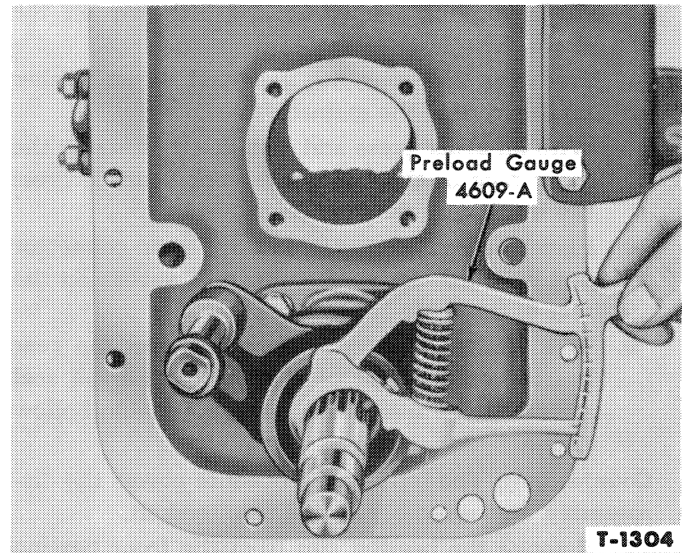

Figure 10—Checking Countershaft Bearing Preload
The four speed transmission can be assembled in the transmission case by reversing the sequence of disassembly operations. However, before beginning a complete buildup, the mainshaft preload must be checked. This is accomplished by installing the mainshaft in the transmission as detailed in paragraphs 12 through 17, at this time. Check mainshaft preload with Preload Gauge 4609-A in the same manner as illustrated in Figure 10. Preload should be 20-35 in. lbs. when lower gear forks are in neutral and top gear
9. At this time, check the countershaft preload with Preload Gauge 4609-A, as shown in Figure 10. The preload should be 15-30 in. lbs. with the bearings and gears lightly lubricated. Add or remove shims as required to obtain the correct preload.